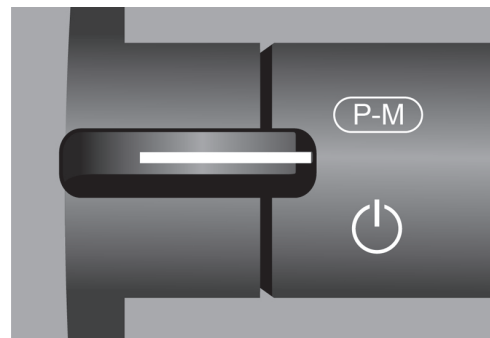

Figure 30. Power, mode and profile paddle switch, early version.
**i** If your panel is equipped with an early version of the toggle switch as shown in figure 30, follow the description below.